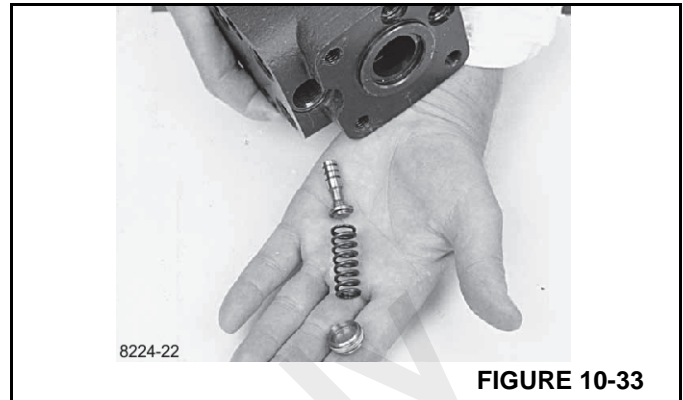

FIGURE 10-33
22. Shake out spring and piston (Figure 10-33). The valve seat is bonded into the housing and cannot be removed.